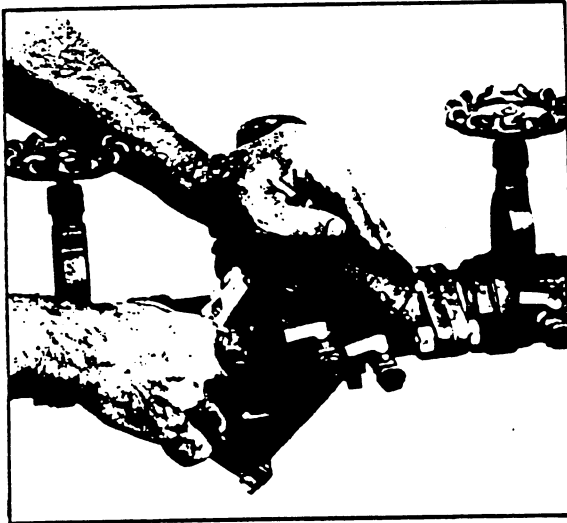

**FIGURE 17. REMOVAL OF SEAT SCREWS FROM RELIEF VALVE**
- h. Remove the three screws that secure the seat, and remove the stem assembly (Fig. 17). Inspect the sealing surface on seat (Fig. 18). Slight nicks or dents may cause the relief valve to leak. If the sealing surface is damaged, replace the seat.
- k. Reassemble the relief valve following the steps (h) through (a) above, making sure that the bevelled end of the seat is exposed (Fig. 17). Tighten all bolts, but not excessively.